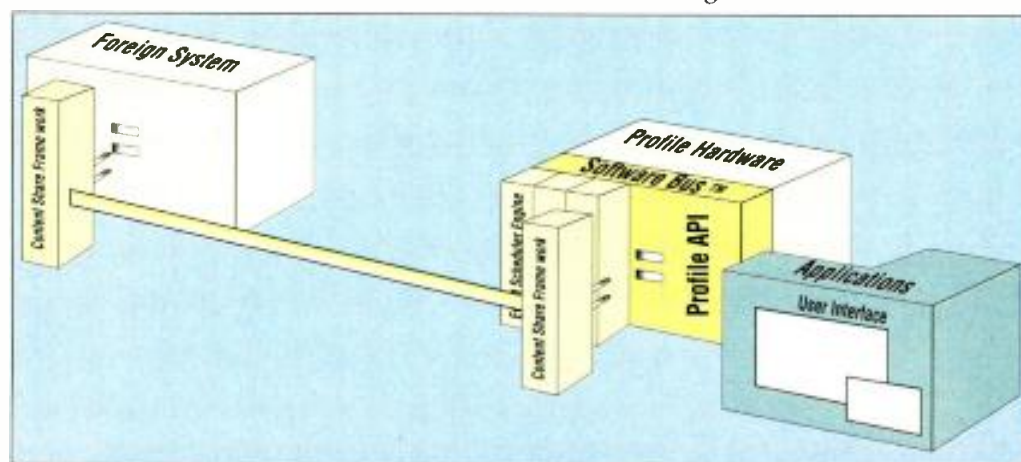

Figure 1: ContentShare integrates tightly with the Profile software architecture while concurrently providing access to a wide variety of applications.
Figure 1. 3x-zoomed image upconverted from 480i to 720p. Original odd lines are spatially shifted because of inter-field motion (A). Results of field interpolation (B) show an oblong shape of the sheep's eyes, indicating the loss of resolution. Motion adaptive conversion produces a higher quality image (C) than field interpolation on stills; however, double images can result as shown. Using TeraNex's PixelComp process (D), de-interlacing measures the inter-field motion and properly realigns the data between fields. The result is improved resolution. Compare this image quality (noting especially the round sheep's eyes) against that of the other methods.